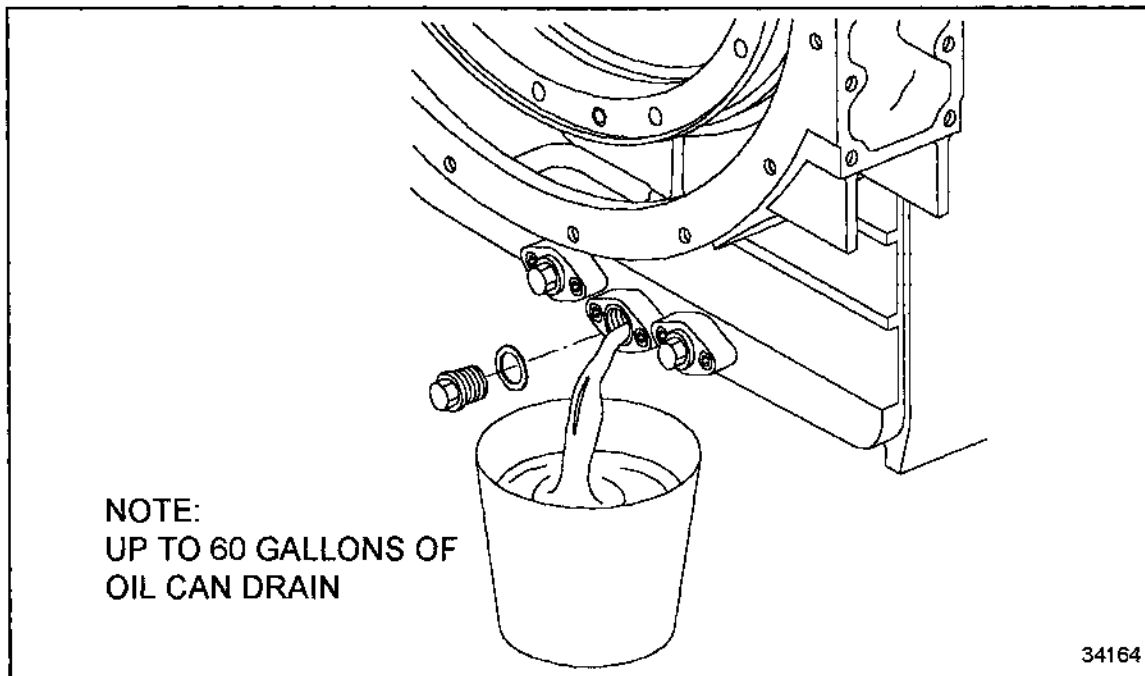

Figure 18 Draining Remaining Oil from the Oil Pan
2. See Figure 18. Drain the used oil from the oil pan at the oil drain plug. Drain oil into a suitable container